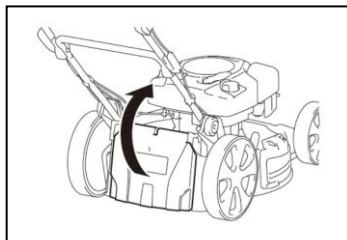

Fig. 8A
6.2.1 Turn the Rear protective plate, assemble the chute flap and close the rear discharge guard; Fig. 8A/B/C.